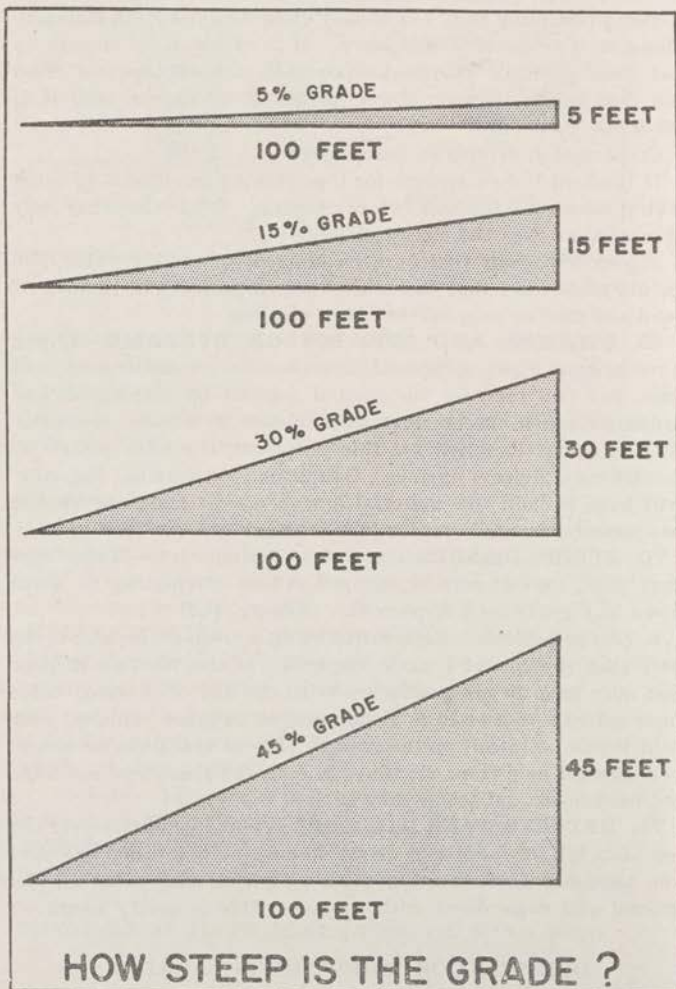

FIGURE 43.
70. STEEP GRADES.—*a. Steep downgrades.*—Make sure that your lowest gear is engaged before attempting to drive down any grade over 30 percent. (See fig. 43.)